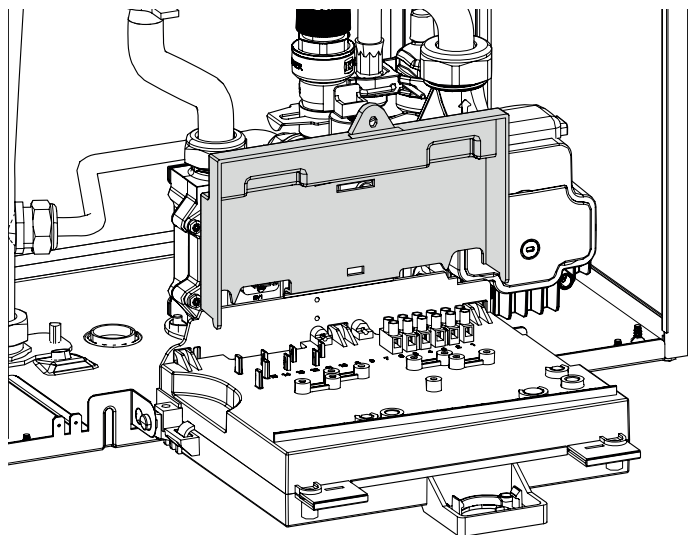

Figure 2.6
- 4 Rotate the lid (Figure 2.6).